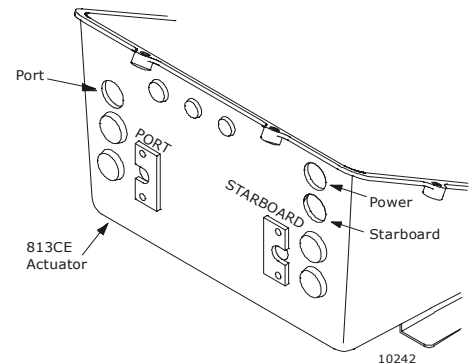

Figure 6: 813CE Actuator Entry
- E) Remove only the Hole Plugs needed for the eight-conductor cable and the two-conductor power cable as shown in Figure 6:
NOTE: On Twin Screw applications ensure insertions of push-pull cables are into the correct push-pull cable entry. Port cable and Starboard cable should enter according to the labels on the 813CE. See Figure 6:.